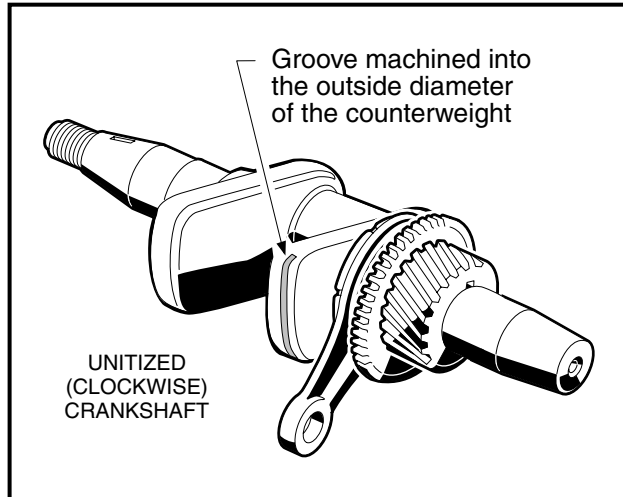

Figure 13-83 Crankshaft Inspection
**NOTE:** The crankshaft for a unitized (clockwise) engine has left-hand threads at the clutch mounting hole, and there is a machined groove in the outside diameter of the counterweight as shown below (**Figure 13-83, Page 13-40**).